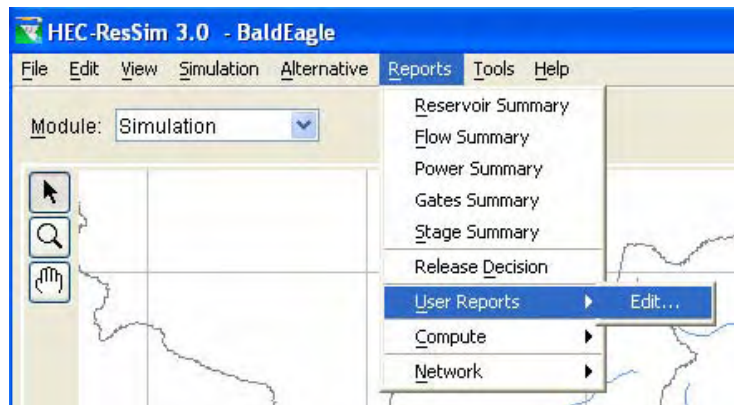

Figure 14.38 Simulation Module – Reports Menu: Accessing the User Report Editor
1. From the **Reports** menu, select **User Reports → Edit...** (Figure 14.38).